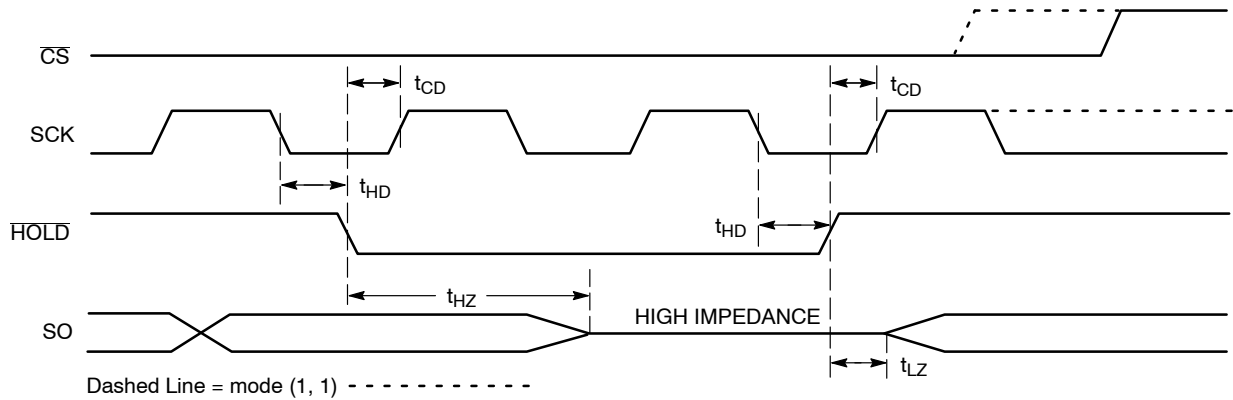

Figure 11. $\overline{\text{HOLD}}$ Timing
The $\overline{\text{HOLD}}$ input can be used to pause communication between host and NV25256. To pause, $\overline{\text{HOLD}}$ must be taken low while SCK is low (Figure 11). During the hold condition the device must remain selected ($\overline{\text{CS}}$ low). During the pause, the data output pin (SO) is tri-stated (high impedance) and SI transitions are ignored. To resume communication, $\overline{\text{HOLD}}$ must be taken high while SCK is low.